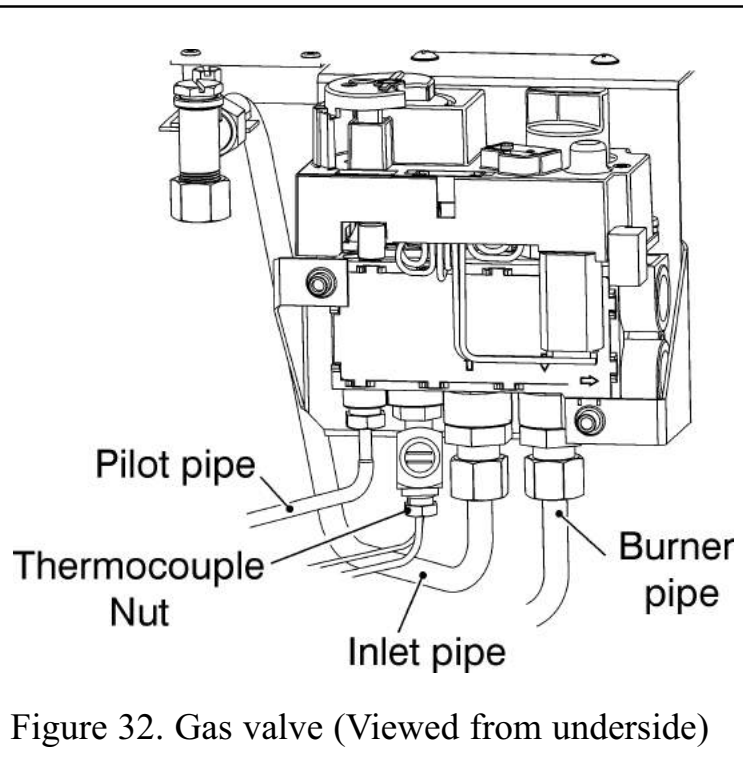

Figure 32. Gas valve (Viewed from underside)
5. Remove the two screws from the pilot bracket (See figure 32).
(See figure 32).